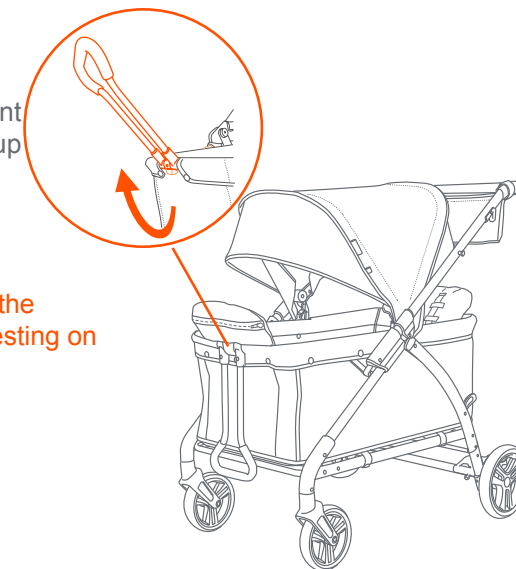

Fig. 7a
- 7) • **TO USE THE HANDLE:** Locate the pull handle on the front end of the wagon frame. Rotate up to desired position (Fig. 7a).
- **TO PUT IT AWAY:** Reverse step (Fig. 7a).